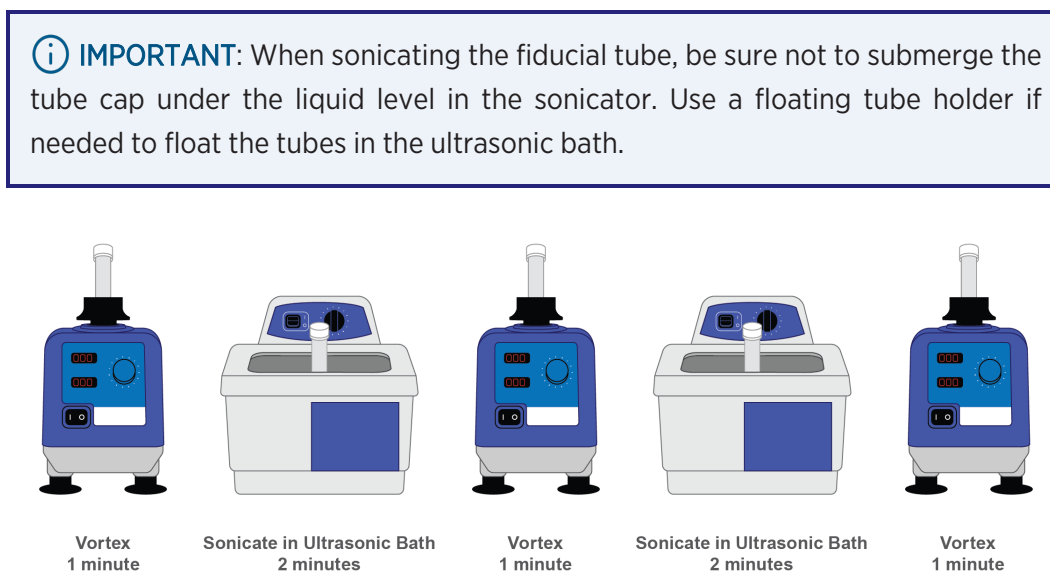

Figure 33: Fiducial preparation
1. Refer to the graphic below to vortex and sonicate the fiducials prior to use (Figure 33):
1. Once fiducials are prepared following Figure 33, **dilute fiducial stock (0.1%) to the working concentration (0.00015%) in 2X SSC-T**. A 2-step serial dilution is recommended for fiducial preparation. Accurate dilution of fiducials is critical for proper assay performance.